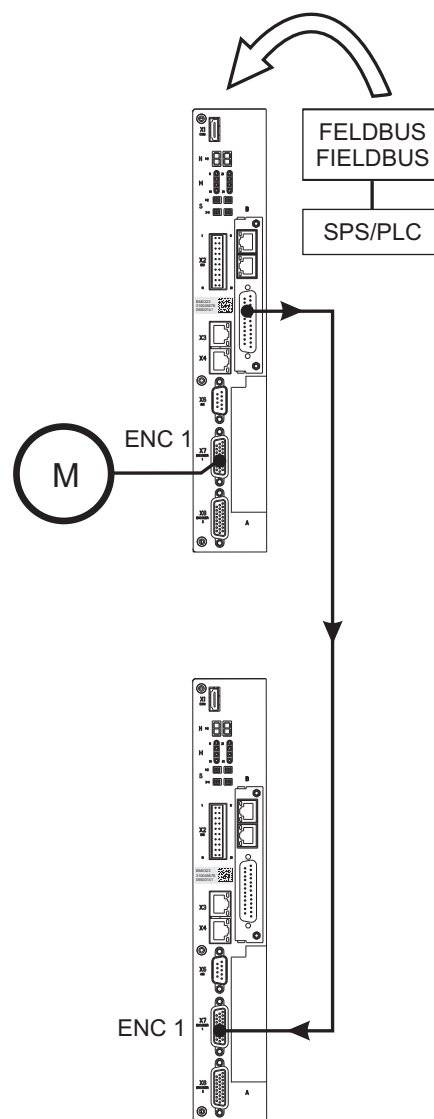

Figure 5: Connection diagram incremental encoder emulation
- Position actual values encoder 1 or encoder 2, see examples 1 and 2 in ▶Figure 5◀ on page 27
- Field bus set value (external set via bus), see example 3 in ▶Figure 5◀ on page 27.
The signal generated by **b maXX** can either be used for synchronization of the following axis, see examples 1 and 3 in ▶Figure 5◀ on page 27 or for position measuring of the axis by a master control, see example 2 in ▶Figure 5◀ on page 27.
Depending on the desired application you now are able to connect the incremental encoder emulation with further system components (see ▶Figure 5◀ on page 27).
- 2 Connect an output (e.g. X1) of the incremental encoder emulation IEE with the encoder input of the higher-level control (see example 2 in ▶Figure 5◀ on page 27).
- 3 Connect an output (e.g. X1) of the incremental encoder emulation IEE with the encoder input of the next b maXX drive (see example 1 in ▶Figure 5◀ on page 27).
- 1 Wiring of the **Modbus/TCP (MOD)** is done properly (MOD as shown in example in ▶Figure 5◀ on page 27).